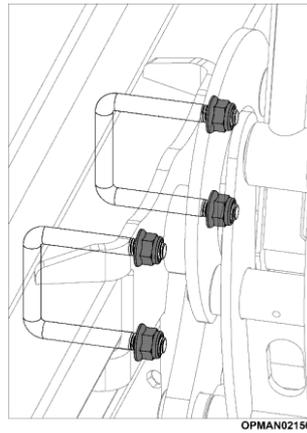

Figure 11
- 8.2.2.6 Fit the U bolt nuts; see Figure 11.